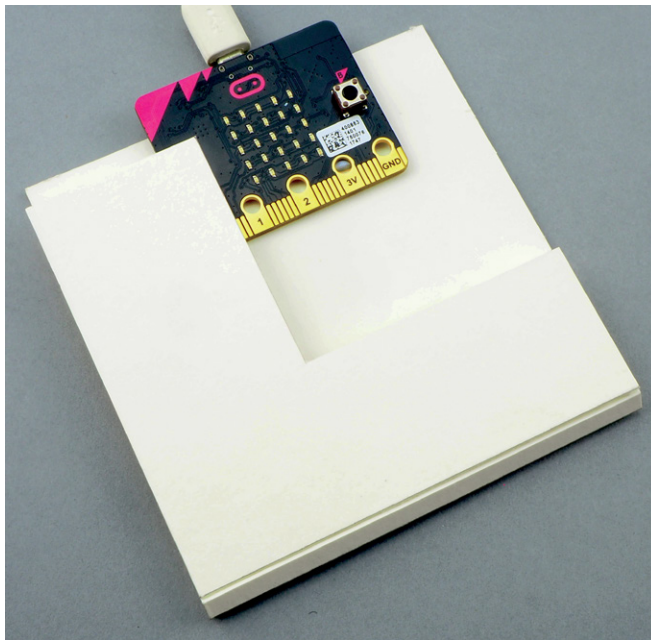

Figure 8-1: Turning a micro:bit into a foot-operated switch
We'll make a cardboard pedal to go around the micro:bit so you can press the button without hiding the display (Figure 8-1).
3. Place the micro:bit inside the folded cardboard so you can see its screen. Stick small pieces of Blu-Tack to the center of the micro:bit and then stick the micro:bit to the cardboard. When you gently press the top of the hinge, you should be able to feel button A click (see Figure 8-1). Check that when the switch is pressed, it doesn't also accidentally press the Reset button on the back of the micro:bit. If it does, try using larger pieces of Blu-Tack.